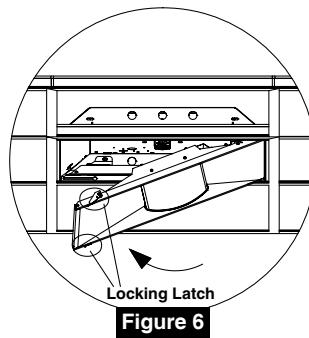

Figure 6
- 6.** Secure the door assembly body by locking the latches riveted on each end of the assembled door frame. (Fig.6)